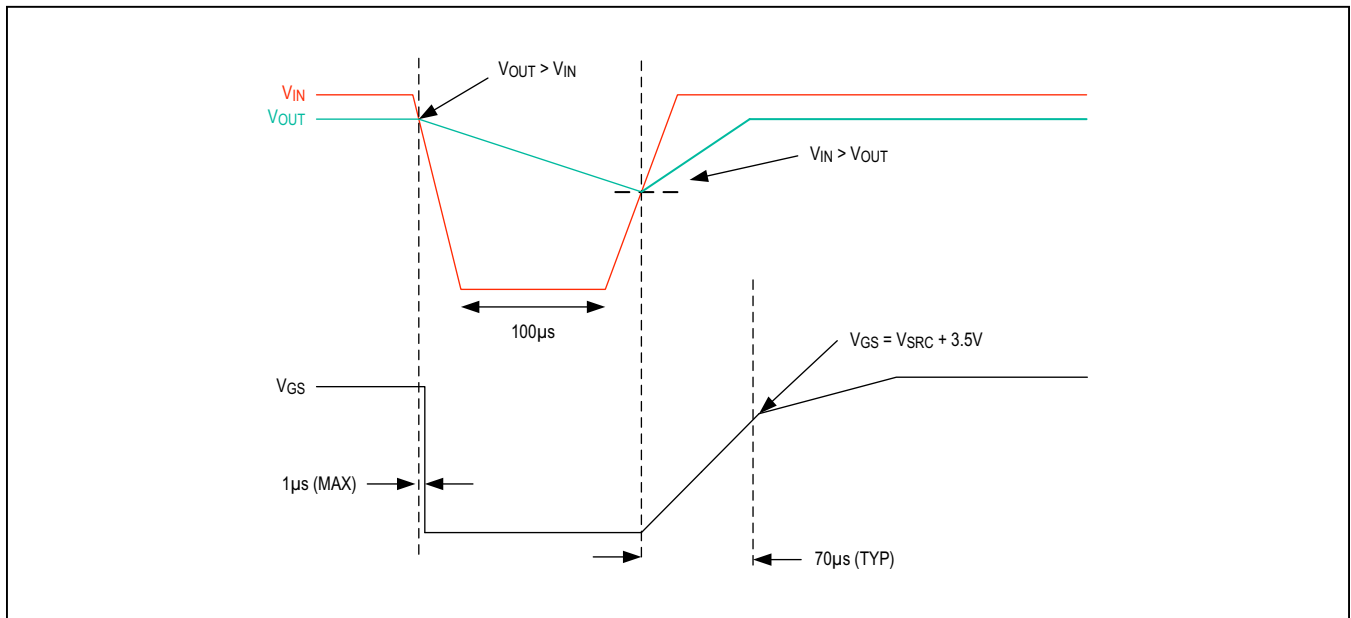

Figure 4. Short Power Interruption and Recover
In an automotive environment, systems usually experience brief power interruptions where the main supply is shorted to ground. The power interruption may last for several seconds; and the only source of power to system load is the output capacitance. To ensure fast recovery, an auxiliary input (VCC) helps keep the MAX16141 standby mode for 100µs (typ). When the main supply input (IN) recovers, the MAX16141 initiates a fast recovery mode that allows the gate to reach its peak voltage within 70µs (typ). See Figure 4 for more detail. Therefore, brief power supply interruptions will not affect operation of the load,